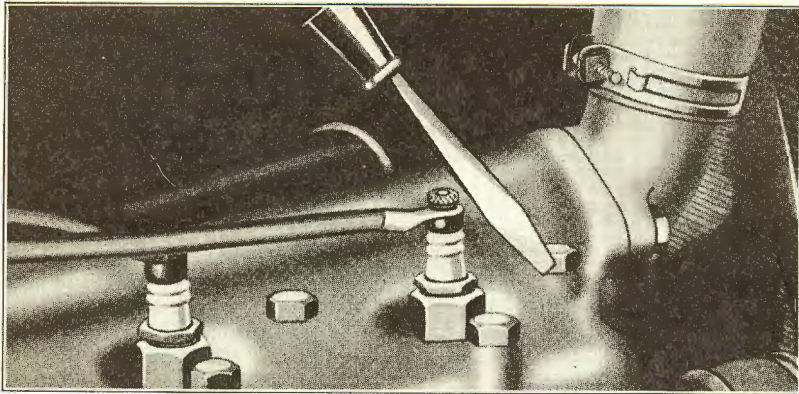

Fig. 497
- 989** If the engine turns over freely but does not start when the starting switch is depressed, place a screw driver with a wooden handle on the cylinder head, holding it about $\frac{1}{8}$ " away from the top of the plug, as shown in Fig. 497 while some one turns the engine over rapidly with either the starter or hand crank. If a good live spark occurs at all of the plugs, the trouble lies in the fuel system and can be remedied as explained in Pars. 1014 to 1018. If a spark does not occur the trouble lies in the electrical system. On cars equipped with a starter, this test should be tried with the ignition key turned on both battery and magneto. If the car will run on battery but not on magneto, inspect the magneto contact post as described in Par. 991. If magneto post is O. K., the trouble is due either to excessive end play in the crankshaft, weak magnets or a ground or short in the magneto coil assembly. See Pars. 992 to 999.